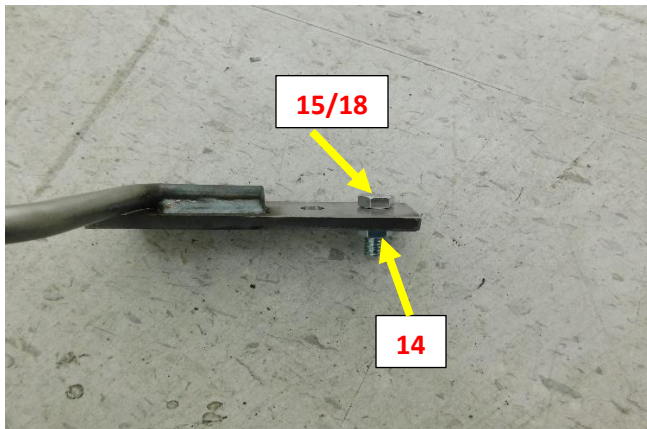

Figure.10
1. Install the 5/16-18 x 1 bolt (18) with 5/16 flat washer (15) and 5/16-18 nut (14) into the outer hole in the frame hanger mounting plate. **Fig.10**